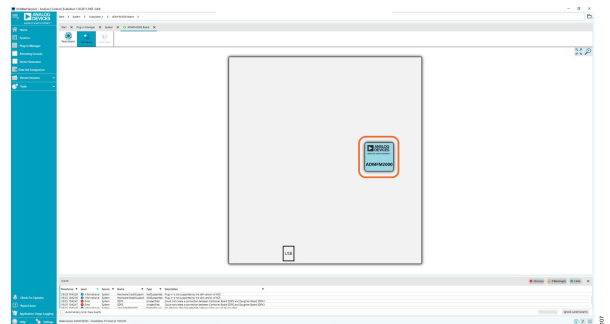
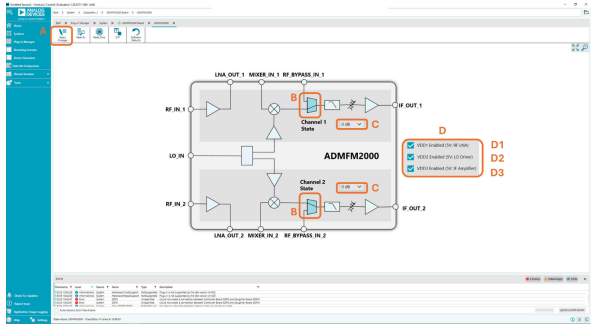

Figure 7. ADMFM2000 Board Plugin
Figure 8. ADMFM2000 Chip Plugin
6. The **ADMFM2000 Board** tab then opens with the **ADMFM2000.Chip** plugin icon shown in Figure 7. Double-click the **ADMFM2000.Chip** icon to open the main ADMFM2000 Chip GUI (see Figure 8).
2. Select **MIXER_IN_x** or **RF_BYPASS_IN_x** path with the **Channel State Mux** (Label **B**), adjust the IF attenuation from the dropdown menu in the **Attenuation [dB]** (Label **C**), and **Regulator Controls** (Label **D**), respectively, as shown in Figure 8, if necessary.